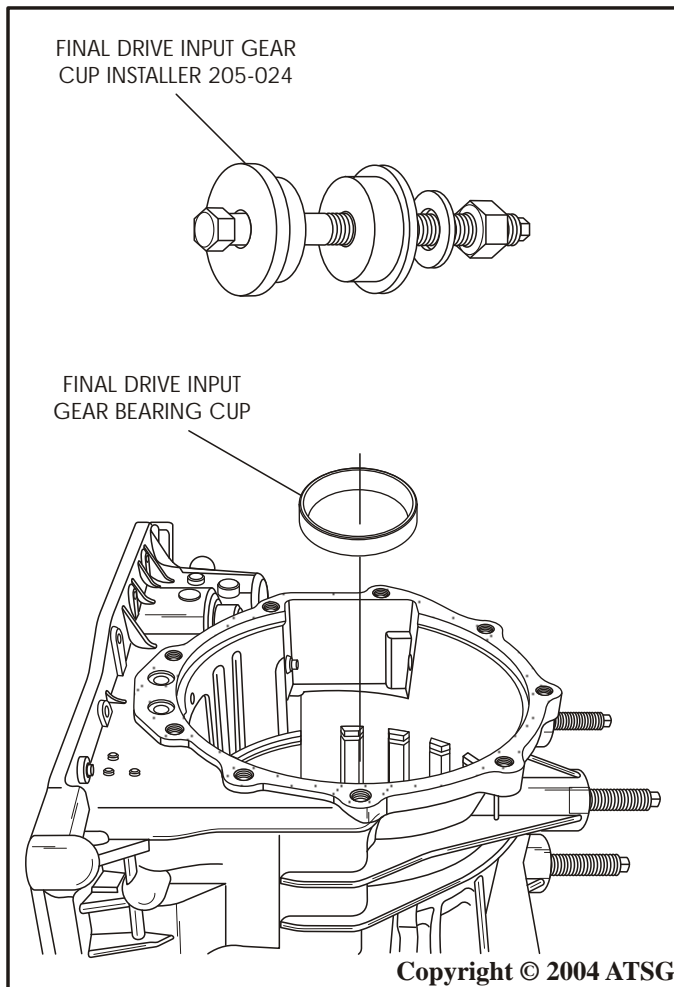

Figure 122
26. Install new final drive input gear bearing cup using the installer, as shown in Figure 122.